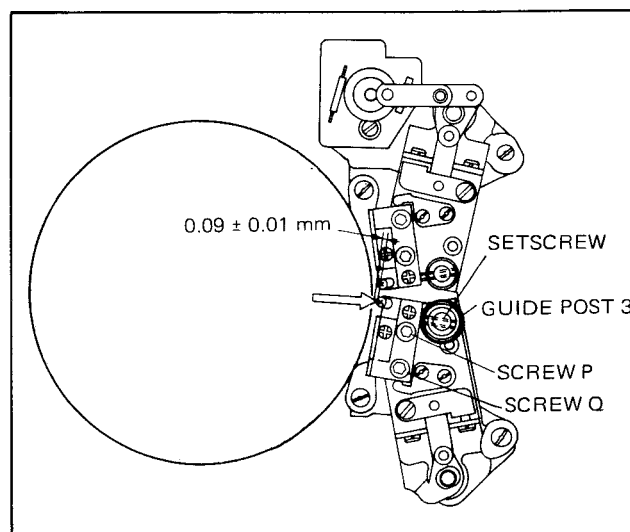

Fig. 3-88. Overlap B Adjustment
- Loosen screw P shown in Fig. 3-88 1/2 to 1 turn.